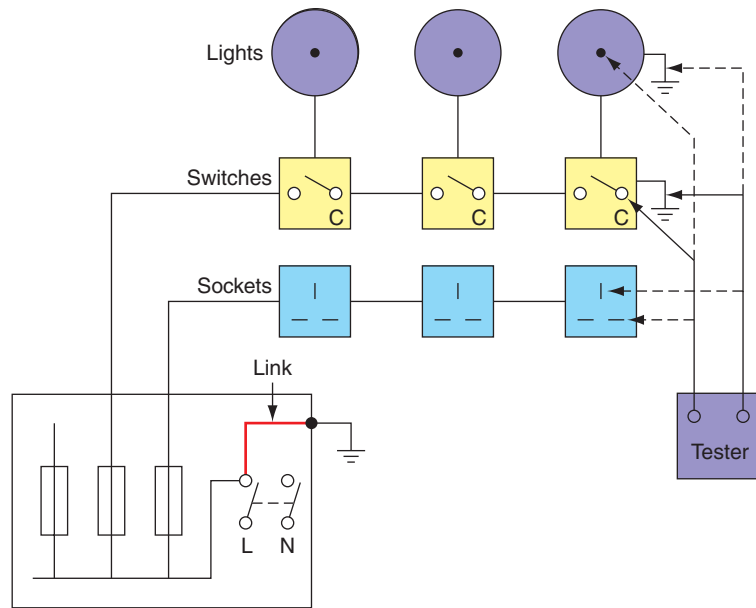

Figure 4.37 Polarity test.
- 6 Test between the live pin (i.e. the pin to the right of earth) and earth at each socket outlet, as shown in Fig. 4.37.